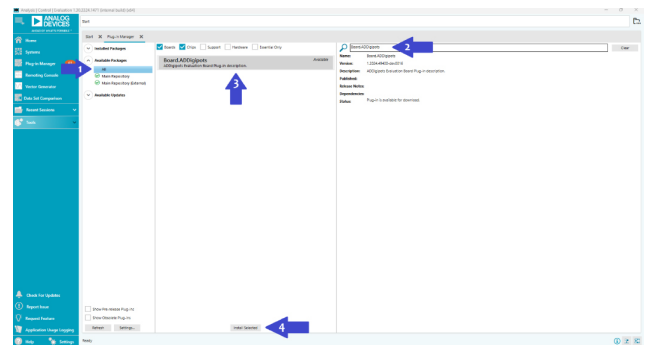

Figure 4. Installing Board.ADDigipots Plugin
3. Within **Plug-in Manager**, go to **Available Packages** and search for **Board.ADDigipots**. Select the available plugin and click **Install Selected**, see Figure 4.